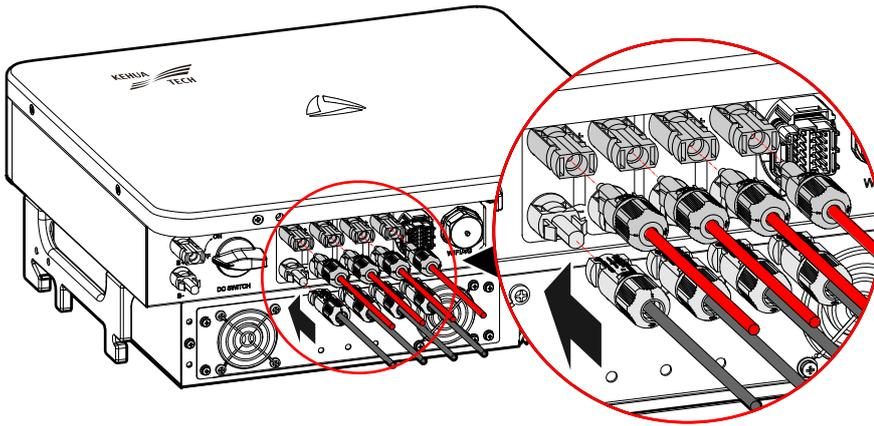
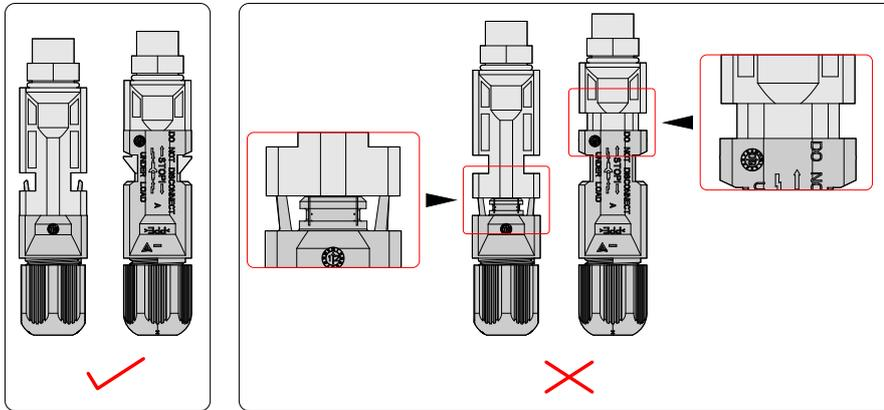

Figure3-23 Connect PV connectors
Figure3-24 PV connector installation method
Step 6 Insert the positive and negative connectors into the PV "+" and "-" terminals at the bottom of the inverter respectively (as shown in Figure3-23). When you hear a click, it means the connection is good (as shown in Figure3-24) .